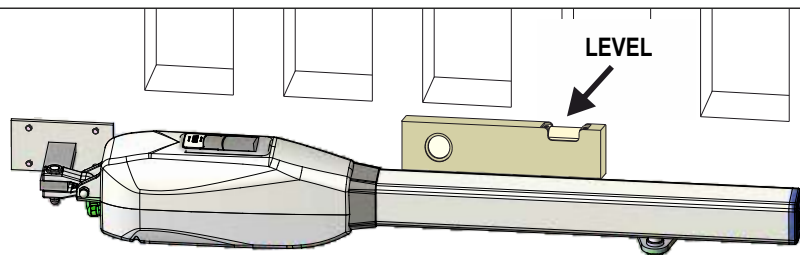
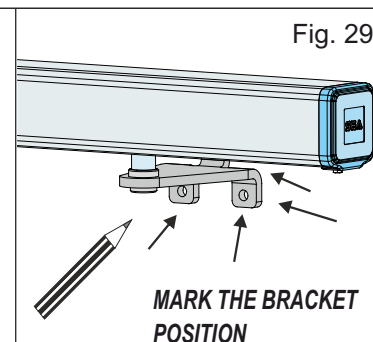

Fig. 28
Fig. 29
- Place the front bracket on the gate and place the shaft in the housing - Fig. 29
- With the help of a level - Fig. 28 - **make sure that the operator is in a perfectly horizontal position** then mark the front bracket and the holes position - Fig. 29